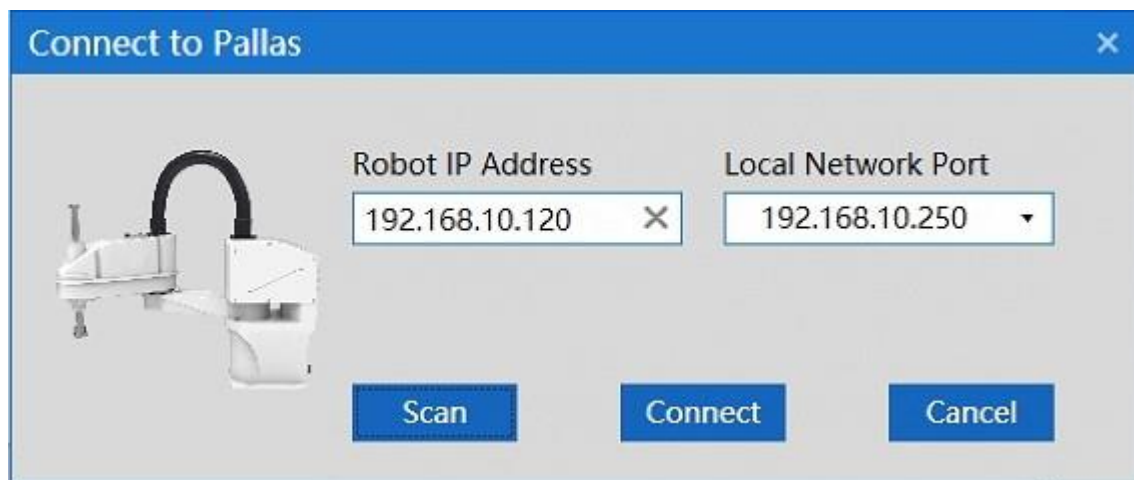

Figure 6-14 IP connection
**Step 3** The IP address of the robot: 192.168.10.120, then click <Connect>the button below,as shown in Figure 6-14.